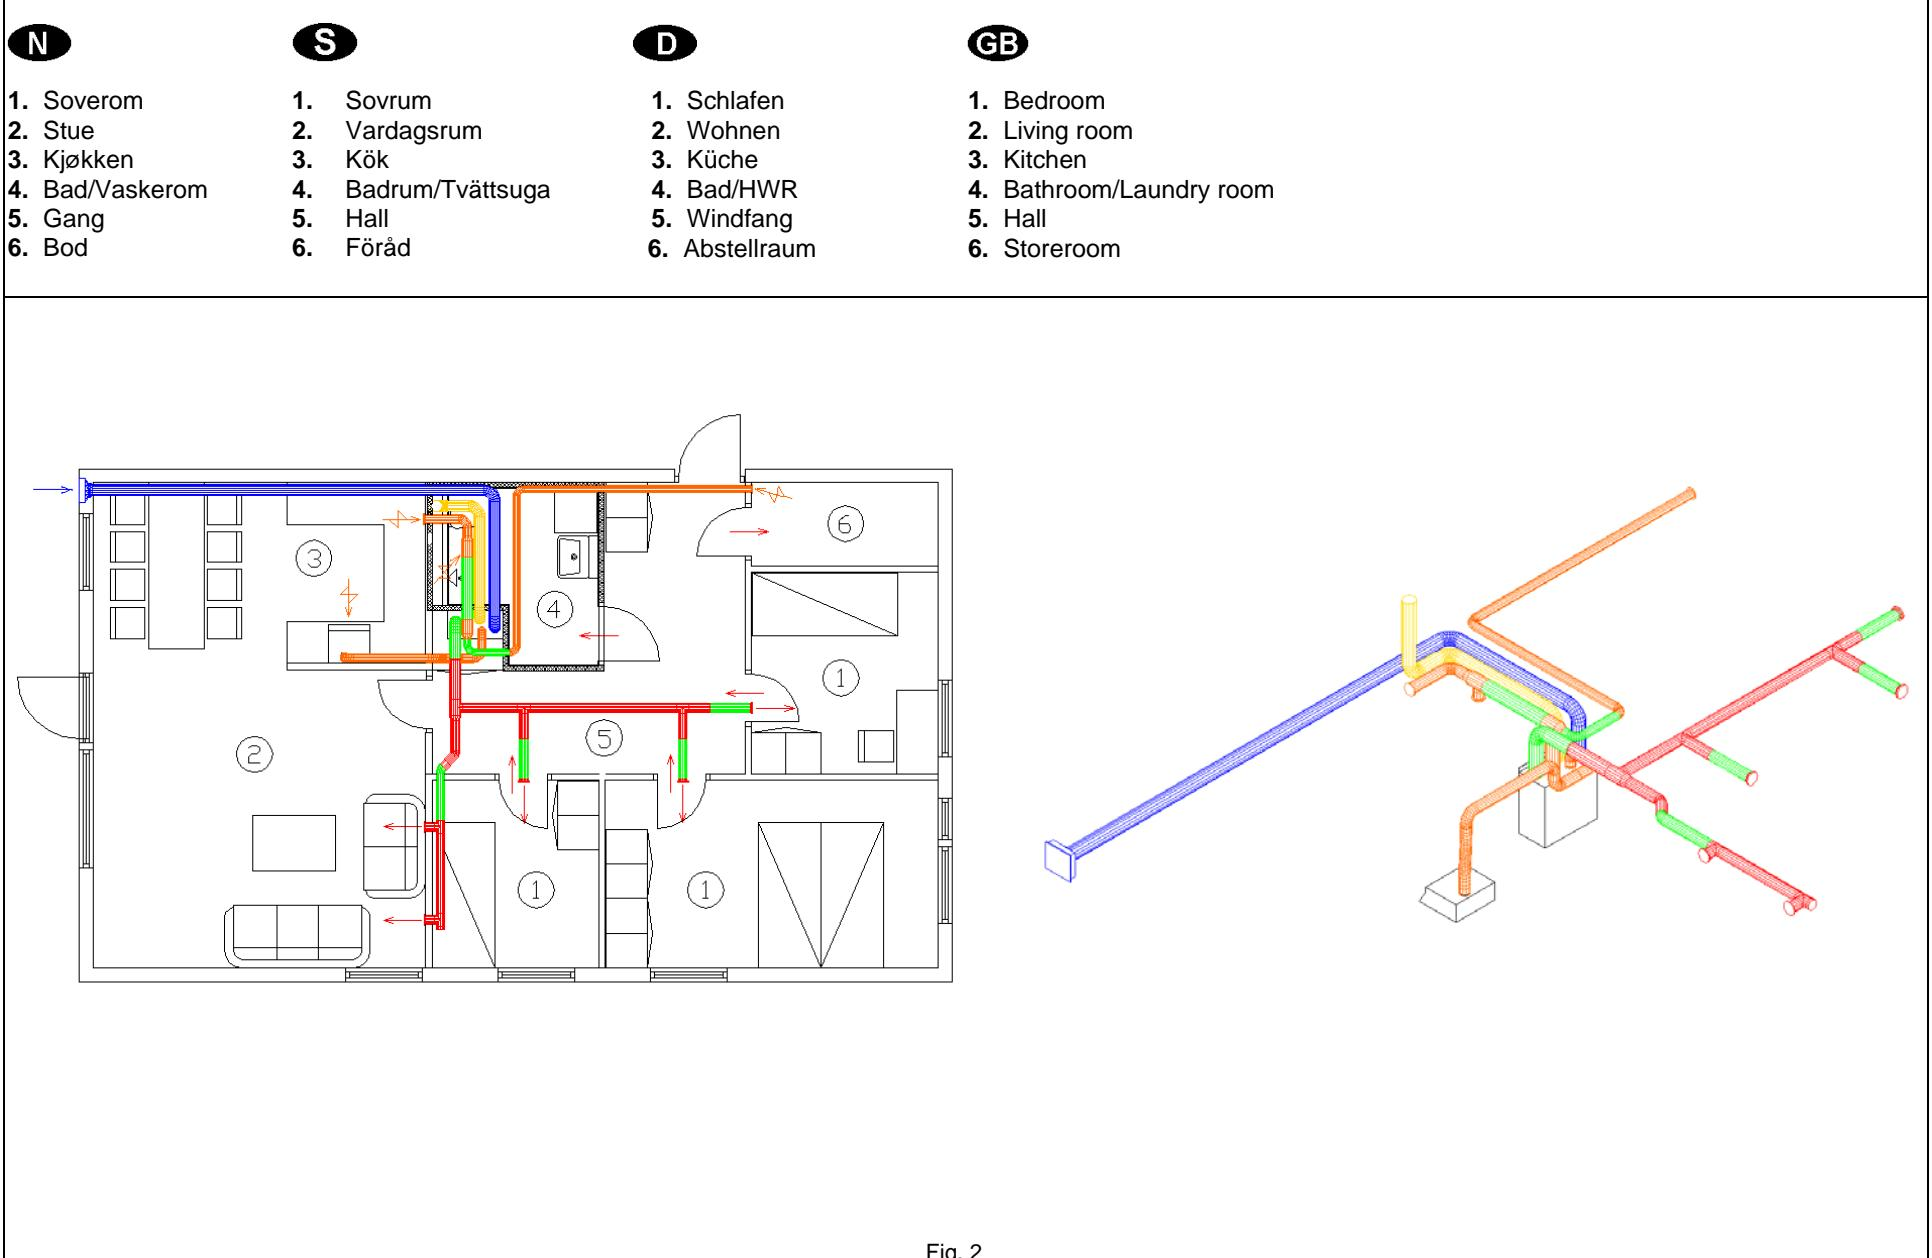

Fig. 2
**N****KANALANLEGG****Generelt (Fig. 2)**
**S****KANALSYSTEM****Generellt (Fig. 2)**
**GB****DUCT SYSTEM****General (Fig. 2)**
**D****ROHRSYSTEM****Allgemeines (Fig. 2)**